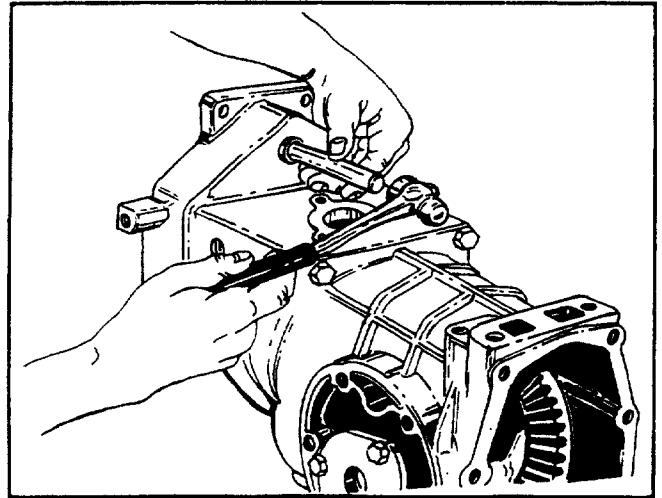

FIGURE 15.
- 3.10 Remove input pinion assembly by inserting impact puller under pinned spline coupler. Impact until pinion shaft, ball bearing and seal is extracted. If a proper puller is not available the whole pinion-shaft assembly can be tapped out using a smaller than 1" dia. punch. See figures 15 and 16. If this method is used, the rear needle bearing should be replaced. Clean entire reduction housing, inspect mating reduction gear for damage and retighten retainer screw to 360 inch/lbs.